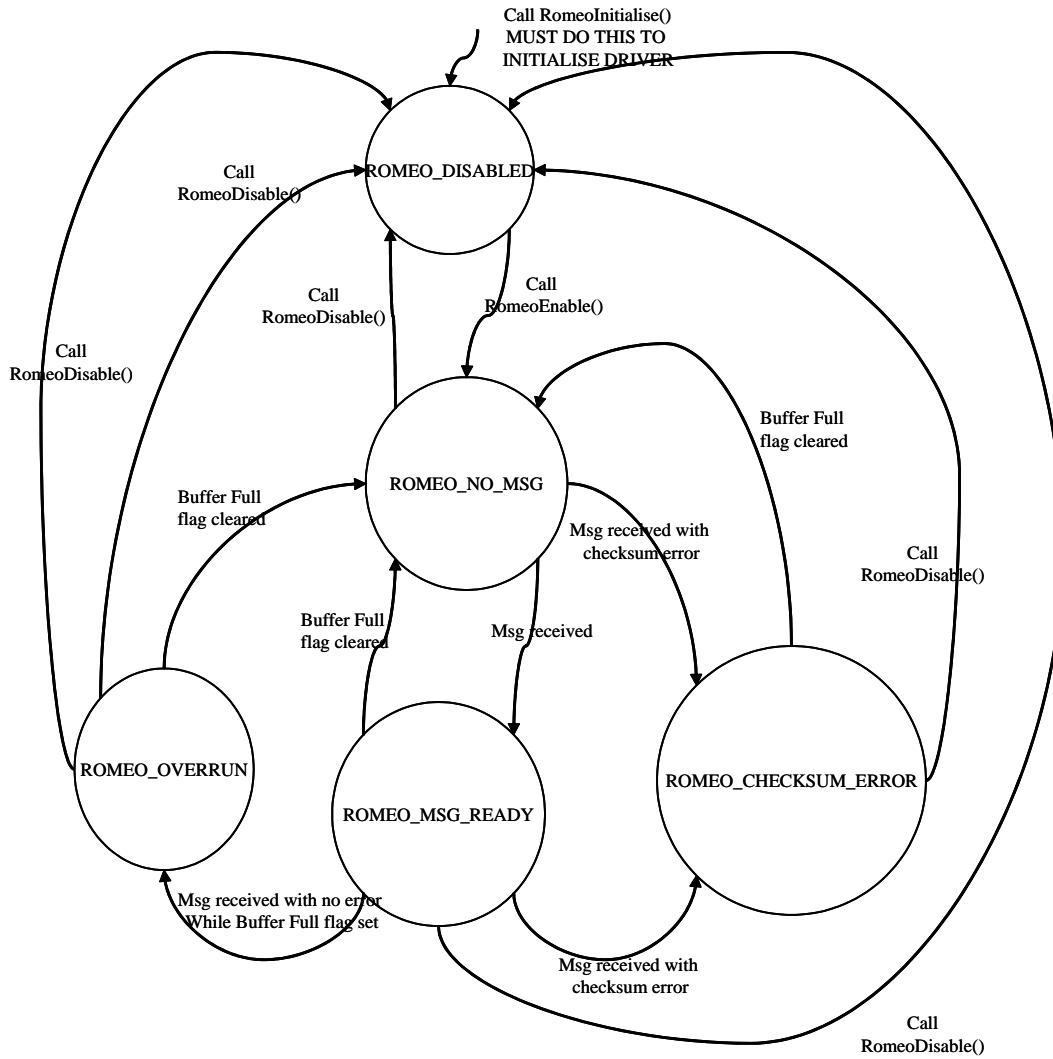

Figure 20. States Returned by the RomeoStatus Service
**Figure 20** shows the various states the driver will return, when the RomeoStatus service is called.